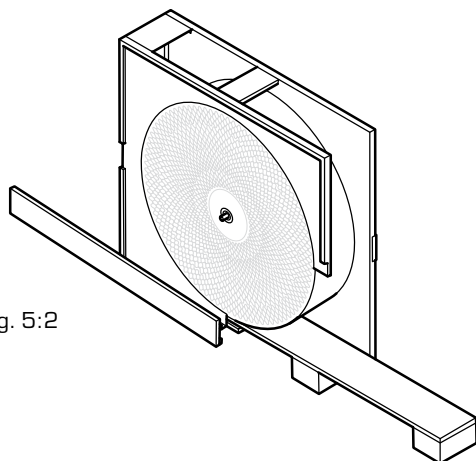

Fig. 5:2
B. See Fig. 5:2 Block up the rotor and back off the shaft retaining screws. Then dismantle one centre beam. Withdraw the rotor shaft. The rotor can now be rolled out of the cassette.